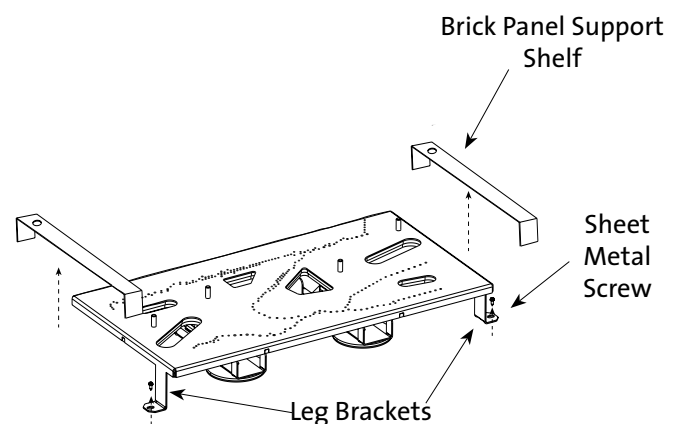

Figure 5.2. Pull the Burner assembly forward and up to disengage it from firebox.
5. Locate the two steel Panel Support shelves at the sides of the burner and lift to remove each from the firebox. See figs. 5.2 below and fig. 53, #22, page 33.
6. Locate and remove the sheet metal screws that secure the two Burner Brackets to the floor. Fig. 5.2.